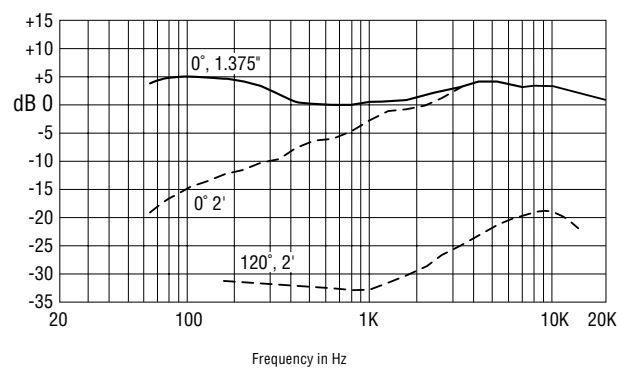

Fig. 2
**Polar pattern:** Cardioid (see Fig. 2).